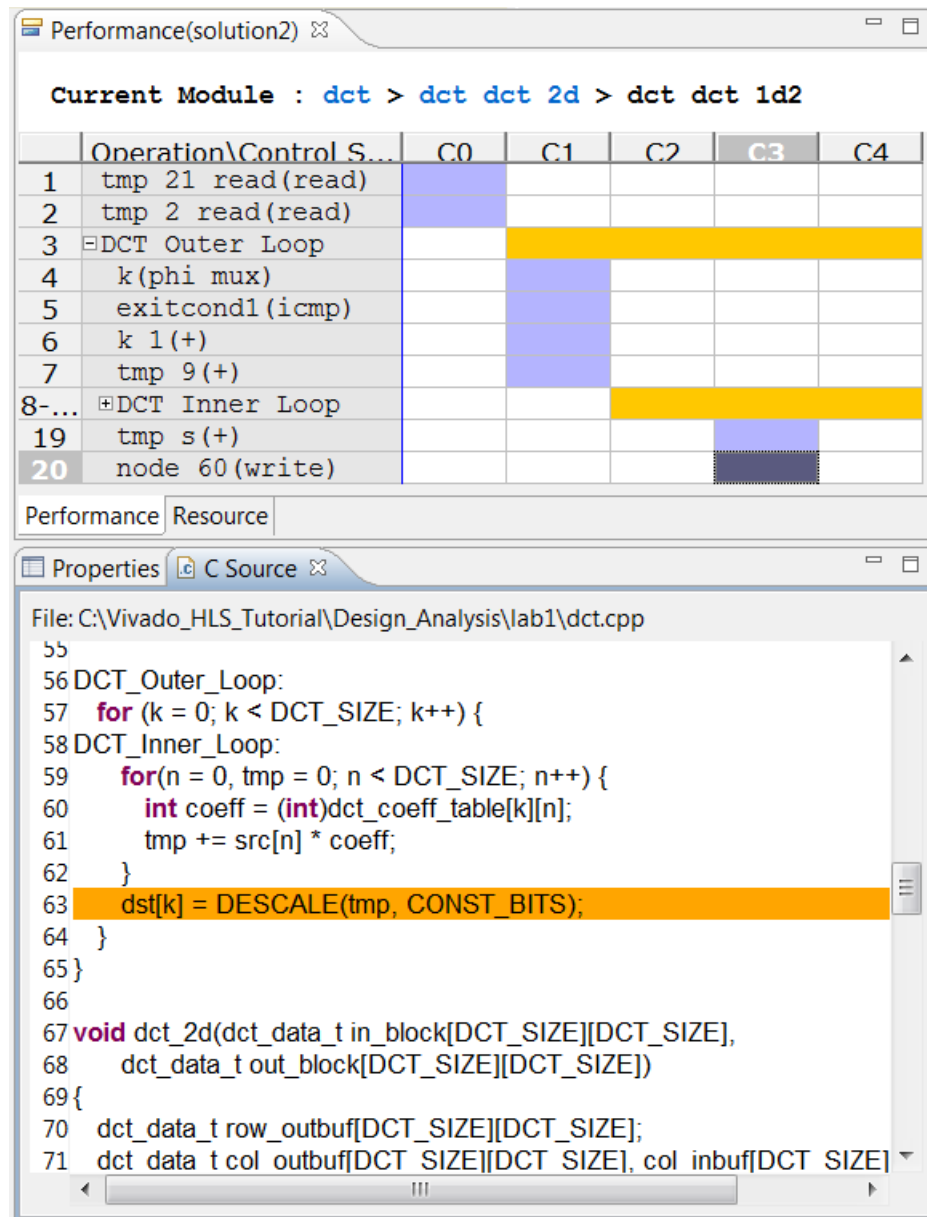

Figure 6-19: DCT Solution2 dct_1d Performance View
11. In the Performance view, click loops `DCT_Outer_Loop` and `DCT_Inner_Loop` to view the loop hierarchy (Figure 6-19).
Figure 6-19 shows that this loop was not flattened because additional operations outside of `DCT_Inner_Loop`, at the level of `DCT_Outer_Loop`, prevented loop flattening. One of the operations that prevented loop flattening is highlighted in Figure 6-19, below.